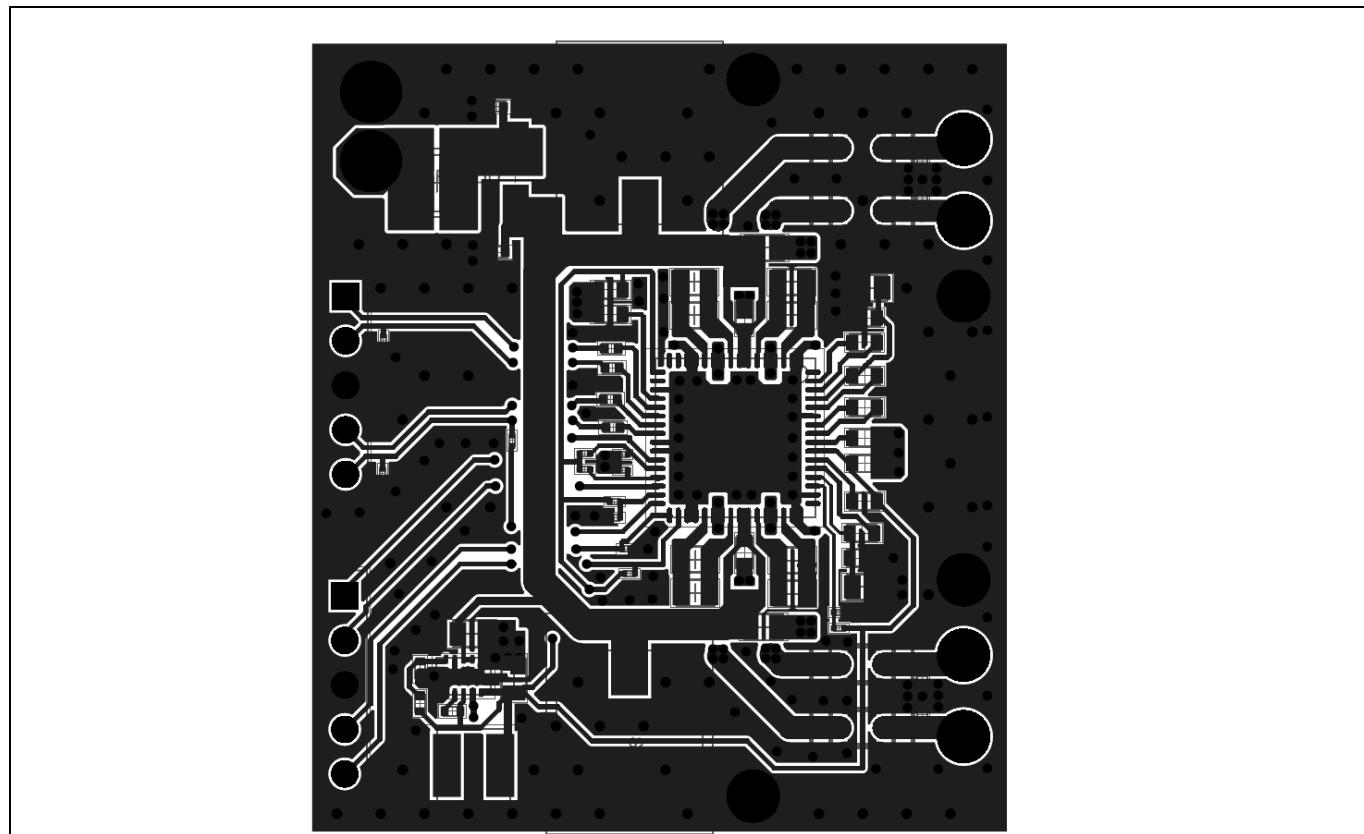
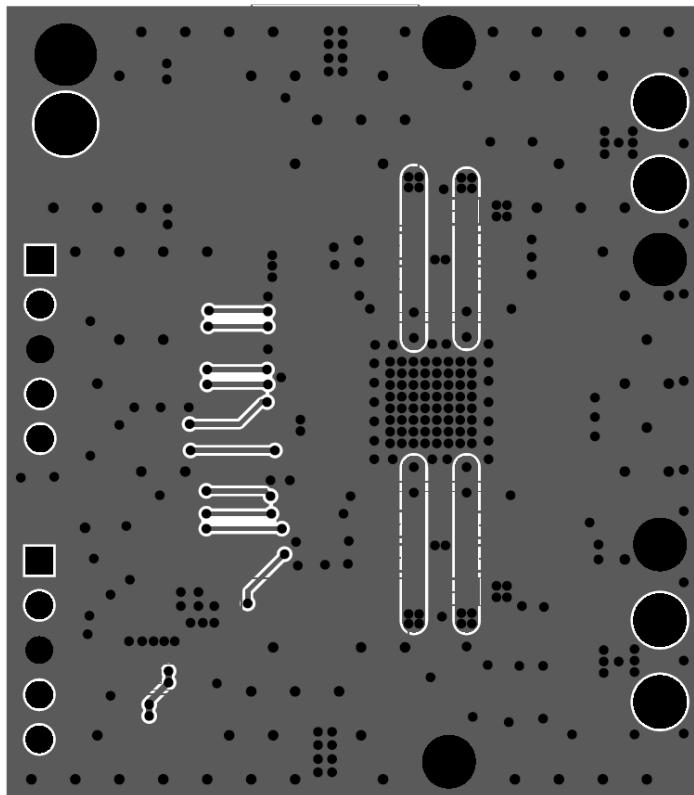

Figure 5 Top side of the PCB layout
Figure 6 **Bottom side of the PCB layout**
- Figure 5 and Figure 6 show the top and bottom PCB design respectively. It can be seen that all the component placement and main routing is done on the top layer.